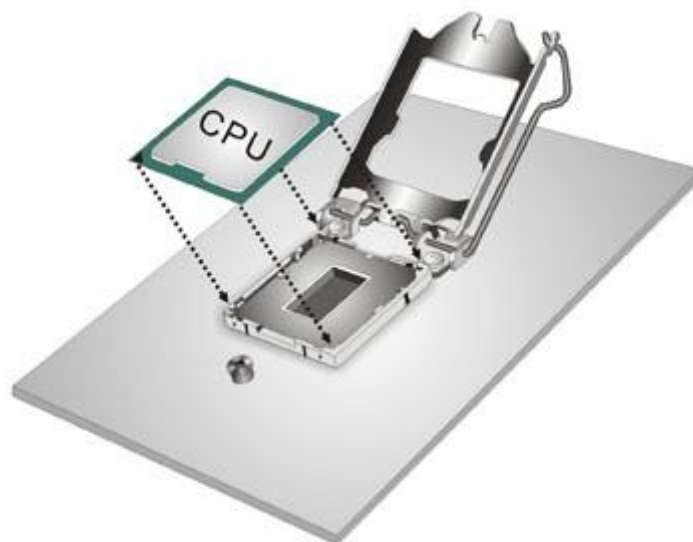

Figure 4-3: Insert the Socket LGA1155 CPU
Step 7: Insert the CPU. Gently insert the CPU into the socket. If the CPU pins are properly aligned, the CPU should slide into the CPU socket smoothly. See **Figure 4-3**.